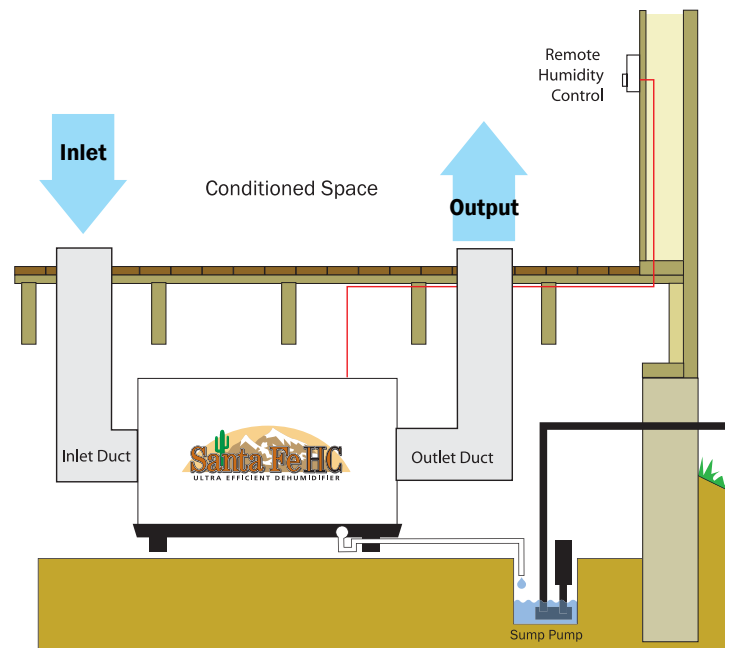

Figure 6: Installation in a remote area with ducted inlet and outlet.
- **4.1C In A Remote Area, Duct Inlet & Outlet (Fig. 6)**